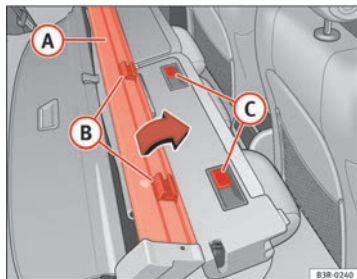

Fig. 123 Installing luggage compartment cover / partition grille
- Fit the partition grille **A** on the backrest so that the retainers **B** are located next to the retaining rails **C** ⇒ fig. 123.